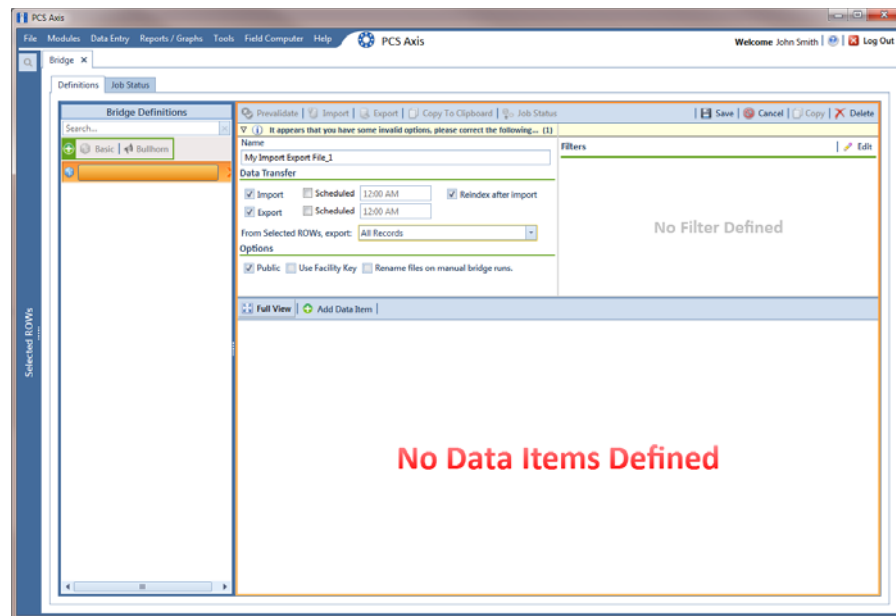

Figure 10-43. Bridge Import Export Definition
- 4 Type a unique name for the definition in the **Name** field (Figure 10-43, page 492).
- 5 To set properties in the *Data Transfer* group box, follow these steps (Figure 10-43, page 492):
- 6 To set properties in the *Options* group box, follow these steps (Figure 10-43, page 492):